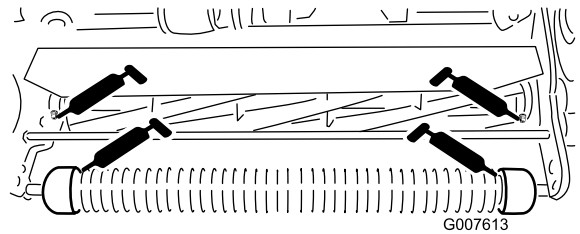

Figure 24
- 2 on the front roller (Figure 24)
- 2 on the reel bearings (Figure 24)